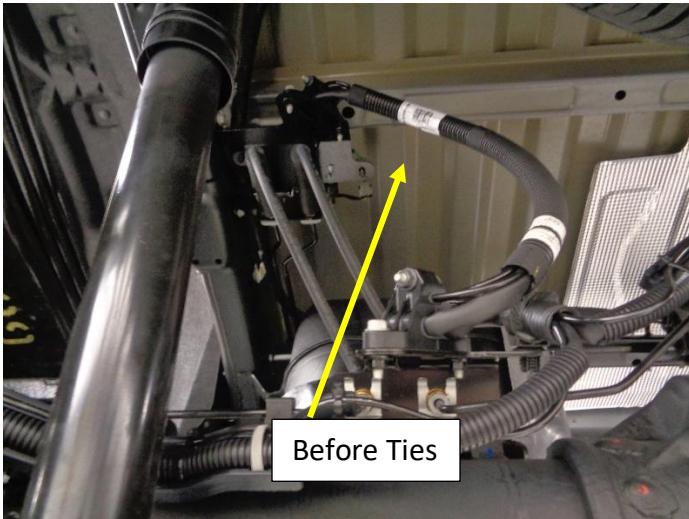
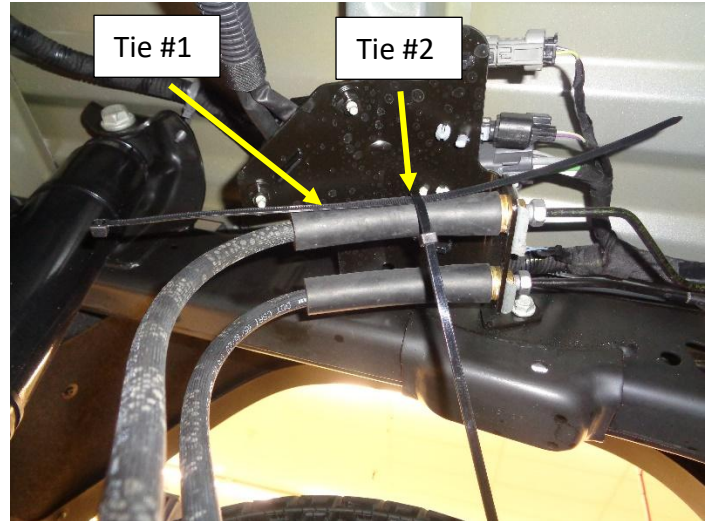
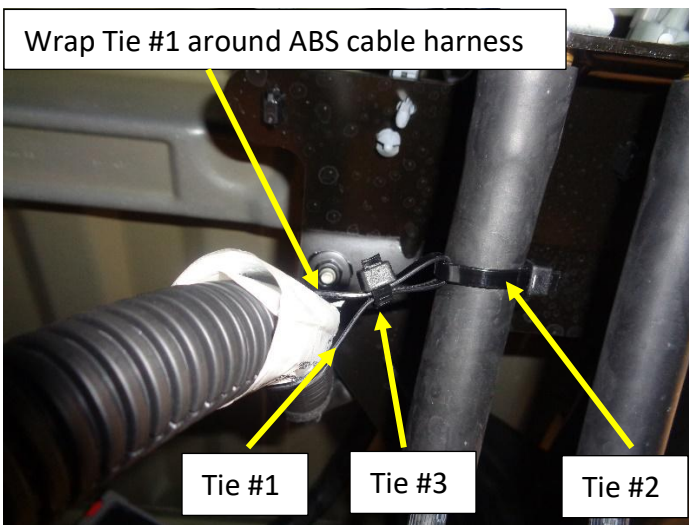
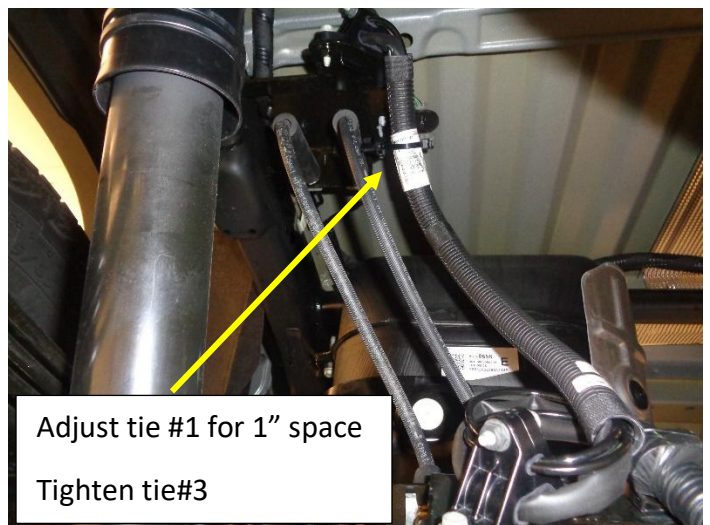

Figure.8
Figure.9
Figure.10
Figure.11
14. Use the supplied Cable ties (13) to tie back the ABS cables to the brake hose as shown in Fig.8, Fig.9, Fig.10 and Fig.11